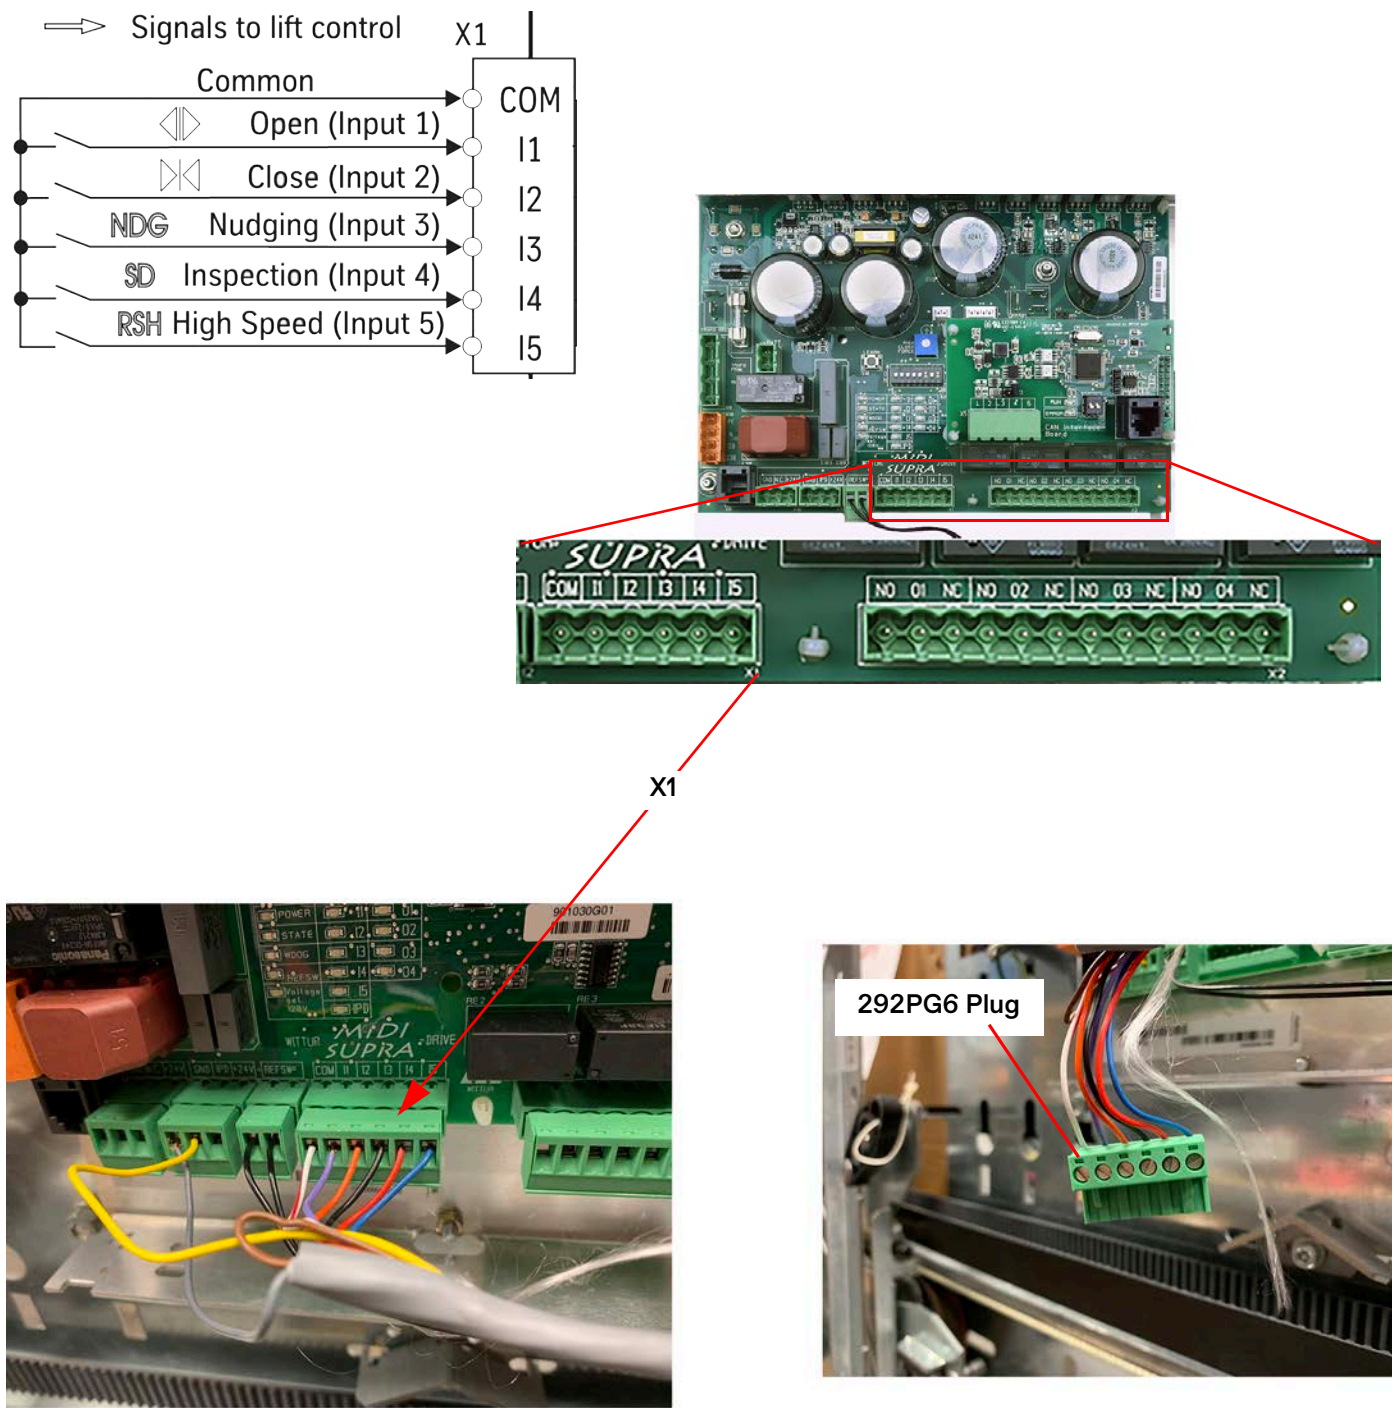

Figure 57 - X1 Inputs on Door Board
See Figure 57 on page 66 for all steps in this procedure.
3. Use plug 292PG6 as the male portion of X1 and install wires in the plug to correspond with the inputs in Figure 57.